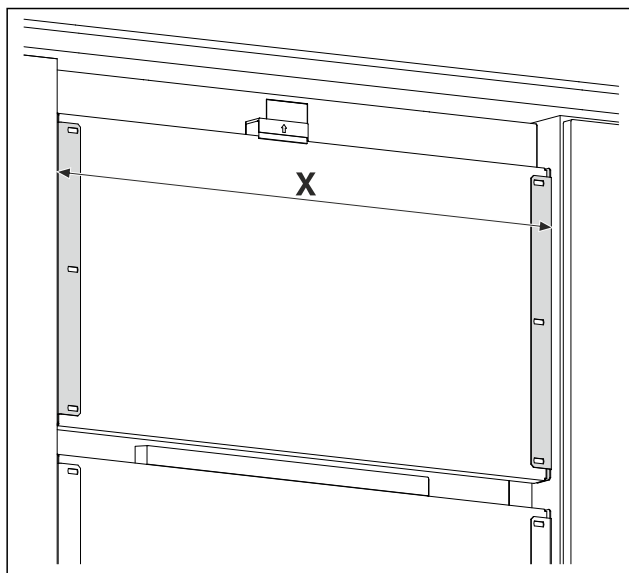

Fig. 19 Example illustration
- ▶ Measure the distance Fig. 19 (X) from the outside edge of the bracket angle.